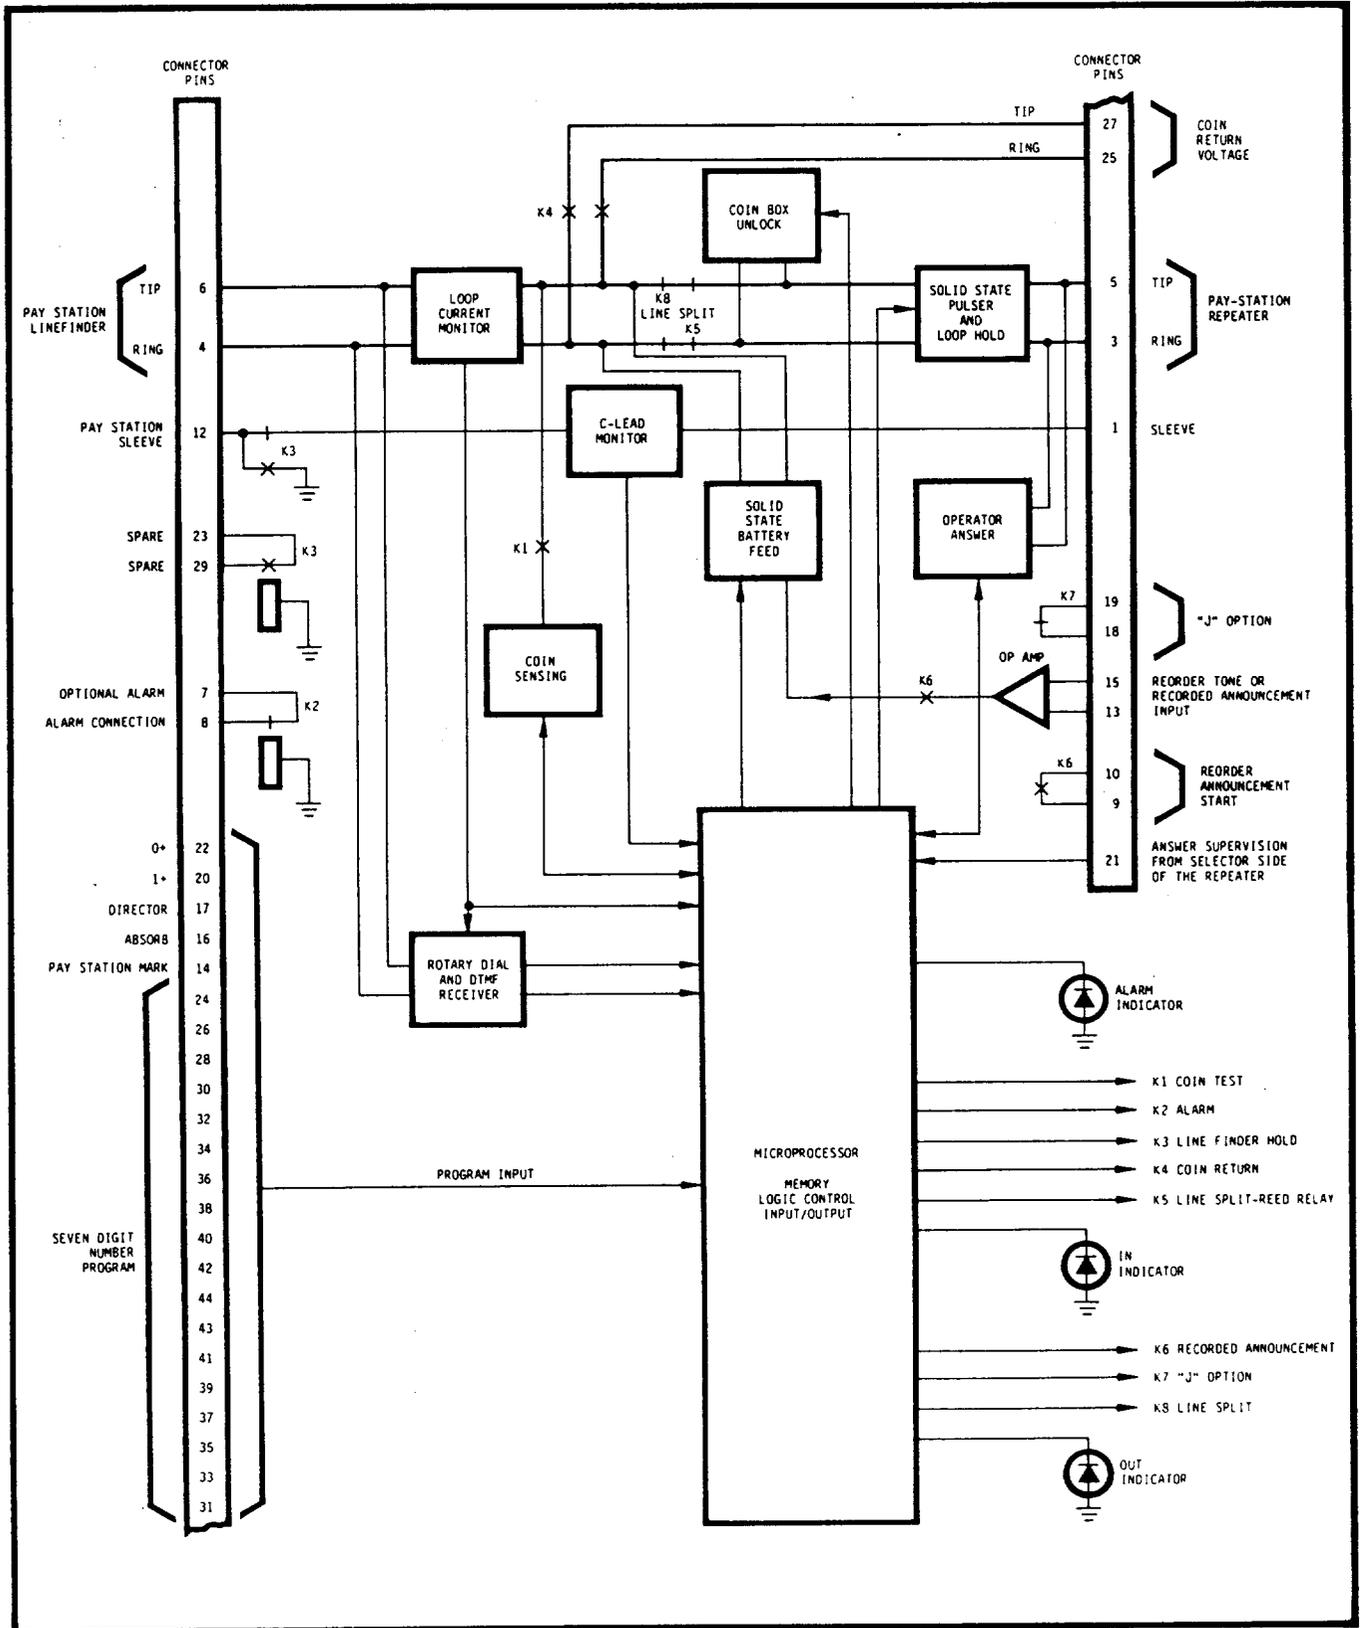

Figure 7 Simplified Block Diagram
4.01 The following descriptions of the M-911 operational sequence are provided to assist evaluation and troubleshooting. The Simplified Block Diagram, Figure 7, displays the connections of the circuit card to the interfacing equipment. Figure 8 displays the sequence of operation.
4.04 The Coin Box Unlock circuit, shown in Figure 7, applies a 1500 ohm resistance from repeater Tip and Ring leads to ground for 125 milliseconds (typical), simulating the presence of a coin to the repeater. The line is then restored by releasing all operated relays and dial tone is sent through to the pay station. Only the indicator labeled IN remains lighted.
program comparison and outpulsing. See Figure 7.